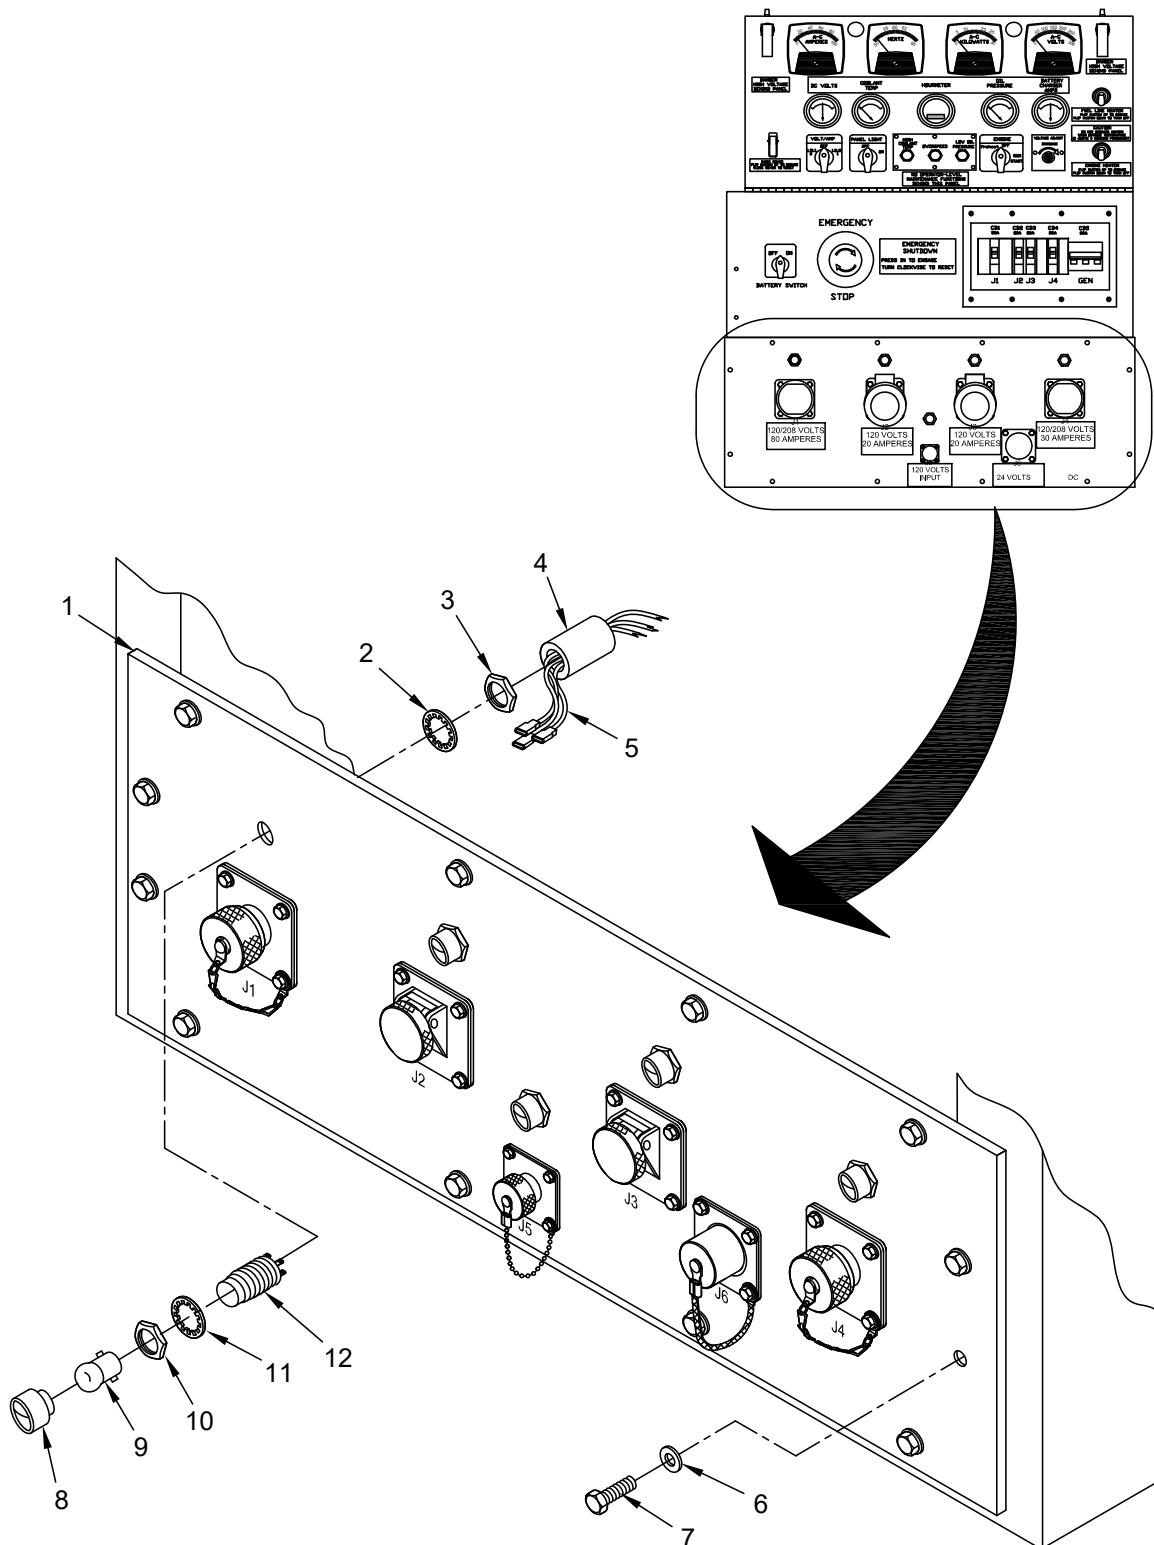
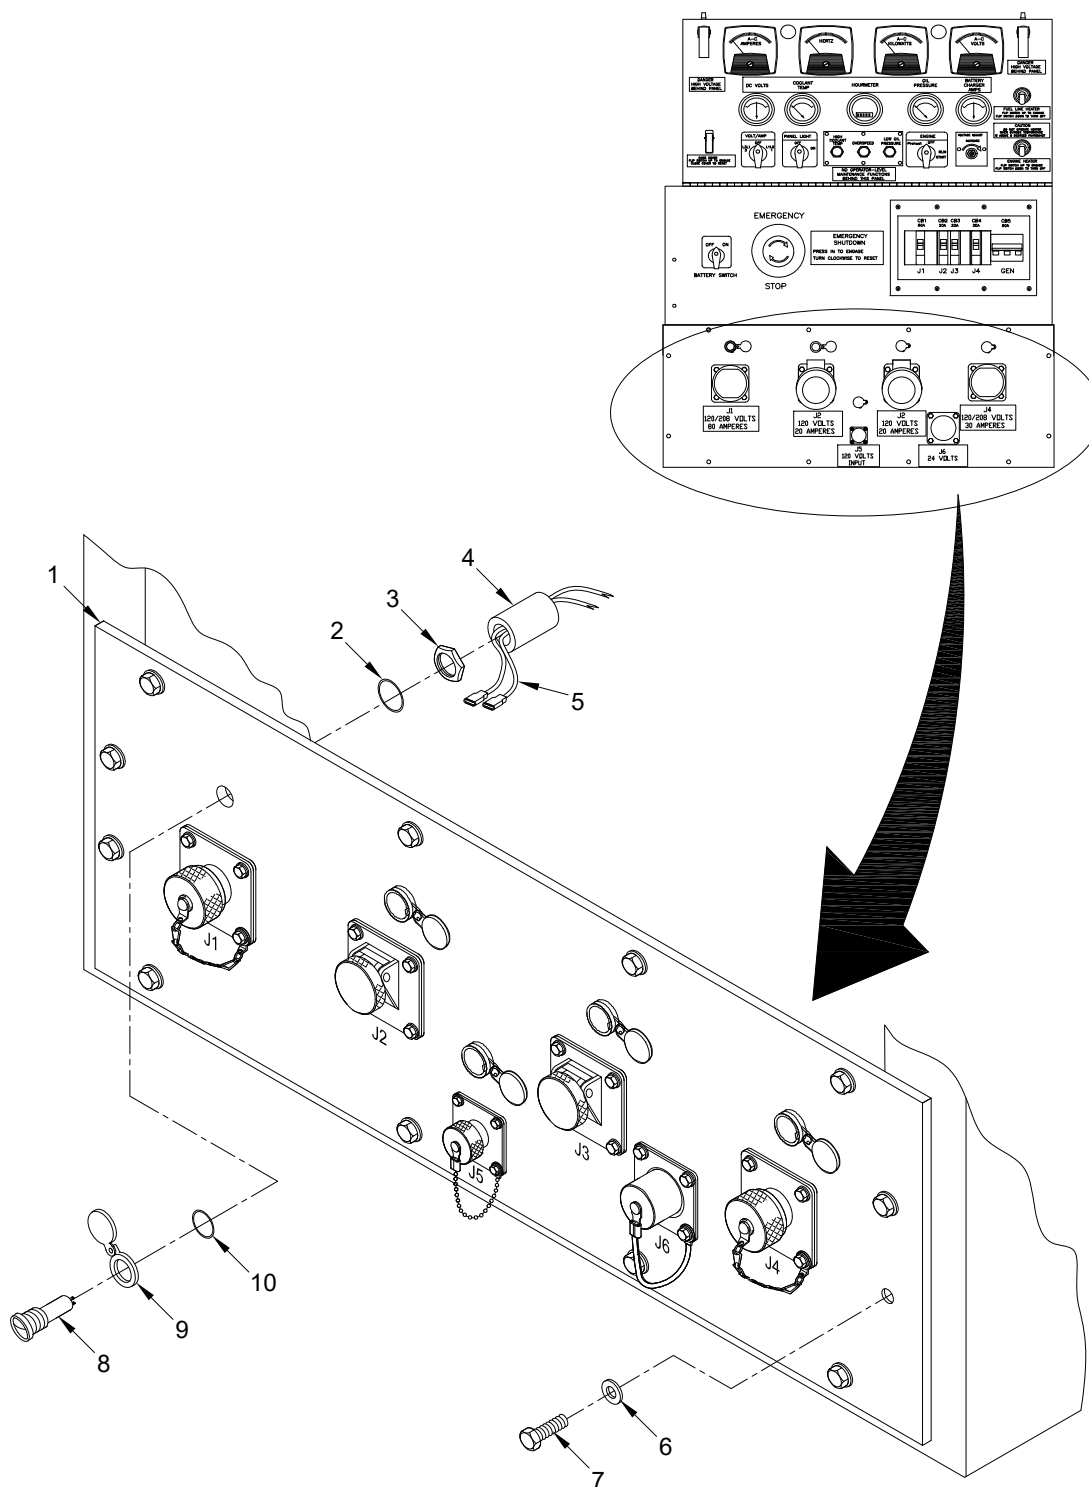
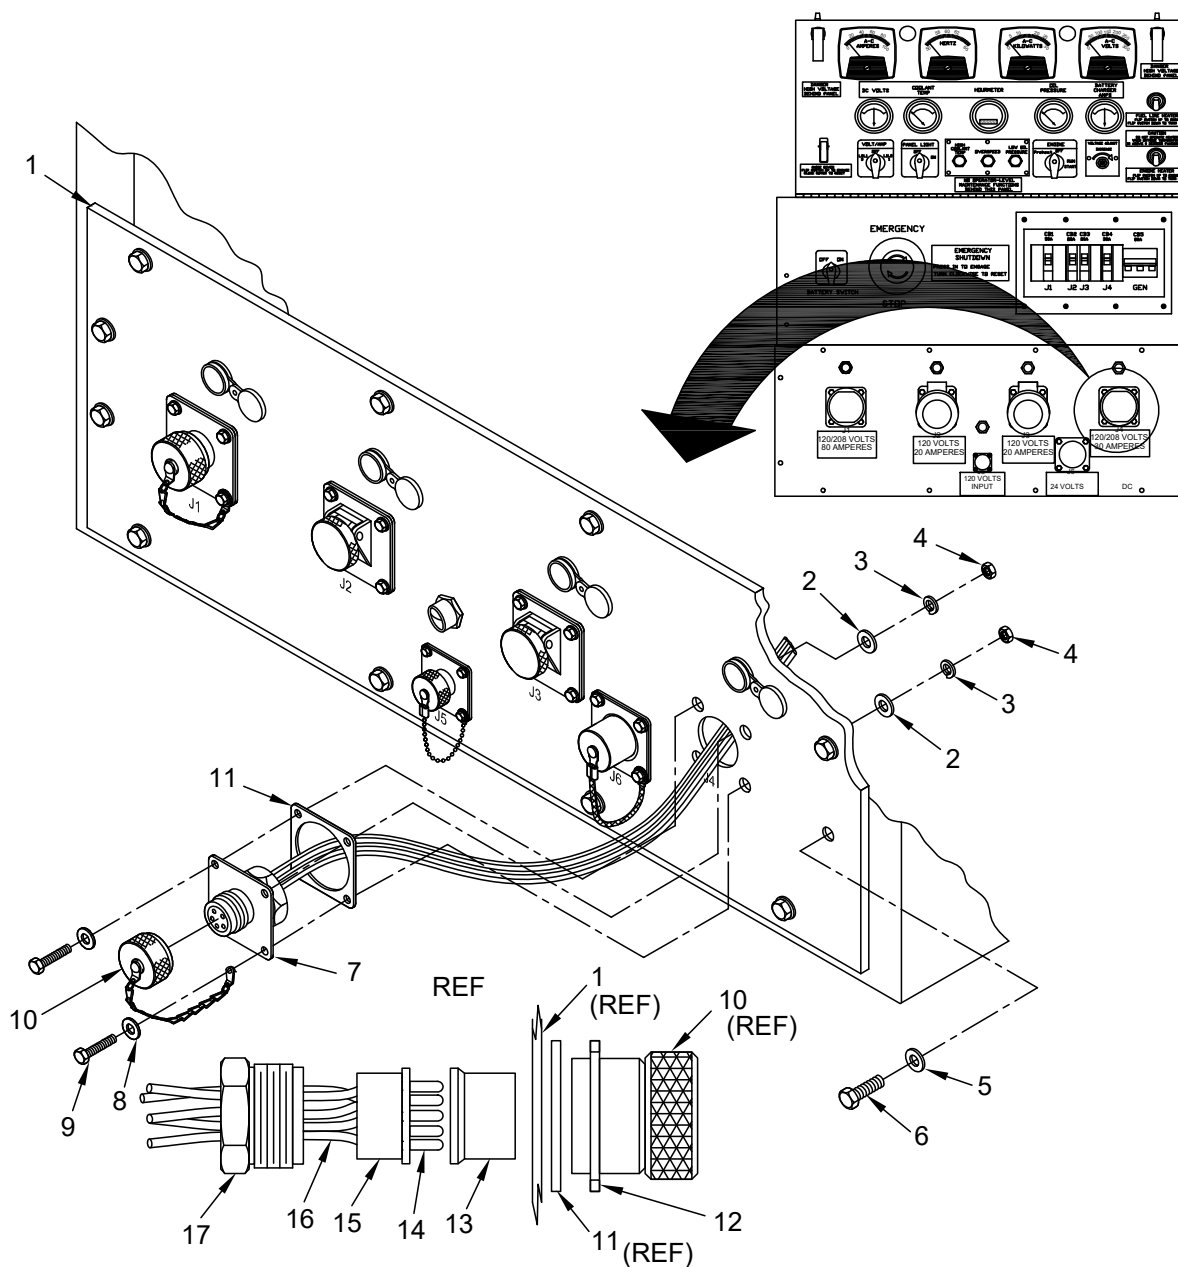
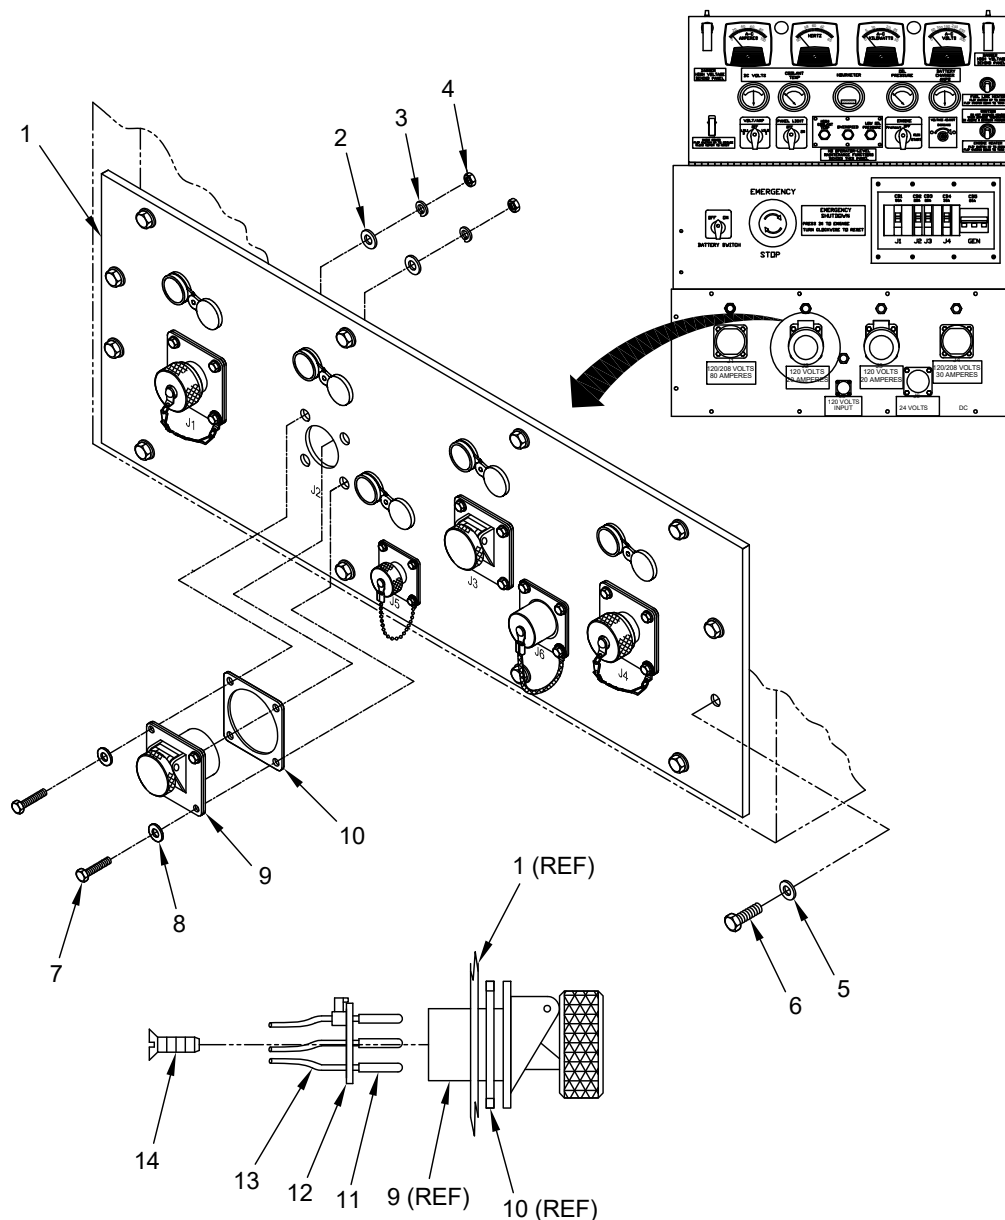

Figure 1. Power Distribution Panel Lights (old version) Removal/Replacement.
Figure 2. Power Distribution Panel Lights (New Version) Removal/Replacement.
Figure 3. Connector (J1 and J4) Removal/Replacement.
Figure 4. Connector (J2 and J3) Removal/Replacement.
2. Insert indicator light (Figure 1, Item 12), lock washer (Figure 1, Item 11) and nut (Figure 1, Item 10) through power distribution panel (Figure 1, Item 1).
3. Install nut (Figure 1, Item 3) and lock washer (Figure 1, Item 2) and secure indicator light (Figure 1, Item 11) to power distribution panel (Figure 1, Item 1).
4. Connect three terminals (Figure 1, Item 5) to light (Figure 1, Item 12) and slide wire cover (Figure 1, Item 4) over connections.
5. Place power distribution panel (Figure 1, Item 1) onto Genset and secure using 12 bolts (Figure 1, Item 7) and flat washers (Figure 1, Item 6).
6. Connect all cables to power distribution panel (Figure 1, Item 1).
7. Connect negative terminal to battery (see WP 0056). Start Genset (Figure 1, Item 1) in accordance with Genset Start Procedure (WP 0005) of this TM.
4. If necessary, disconnect all cables from power distribution panel (Figure 2, Item 1).
5. Remove and retain 12 bolts (Figure 2, Item 7) and flat washers (Figure 2, Item 6) that secure power distribution panel (Figure 2, Item 1) to Genset.
6. Remove power distribution panel (Figure 2, Item 1) and lay face down.
7. Slide wire cover (Figure 2, Item 4) off of light (Figure 2, Item 12) being replaced.
8. Mark and disconnect two terminals (Figure 2, Item 5) from light (Figure 2, Item 8) being replaced.
9. Remove and retain nut (Figure 2, Item 3) and metal gasket (Figure 2, Item 2) that secures light (Figure 2, Item 8) to power distribution panel (Figure 2, Item 1).
10. Remove light (Figure 2, Item 8), black out cover (Figure 2, Item 9), and rubber gasket (Figure 2, Item 10) from power distribution panel (Figure 1, Item 1).
1. Insert indicator light (Figure 2, Item 8), Black out cover (Figure 2, Item 9) and Rubber gasket (Figure 2, Item 10) through power distribution panel (Figure 2, Item 1).
2. Install metal gasket (Figure 2, Item 2) and nut (Figure 2, Item 3) and secure indicator light (Figure 2, Item 11) to power distribution panel (Figure 2, Item 1).
3. Connect two terminals (Figure 2, Item 5) to indicator light (Figure 2, Item 8) and slide wire cover (Figure 2, Item 4) over connections.
5. Place power distribution panel (Figure 2, Item 1) onto Genset and secure using 12 bolts (Figure 2, Item 7) and flat washers (Figure 2, Item 6).
6. Connect all cables to power distribution panel (Figure 2, Item 1).
The door covering the circuit breakers in (Figure 2) has been removed for clarity.
4. If necessary, disconnect all cables from power distribution panel (Figure 3, Item 1).
5. Remove and retain 12 bolts (Figure 3, Item 6) and lock washers (Figure 3, Item 5) that secure power distribution panel (Figure 3, Item 1) to Genset.
7. Remove power distribution panel (Figure 3, Item 1) and lay face down.
8. Remove and retain four bolts (Figure 3, Item 9), flat washers (Figure 3, Item 8), nuts (Figure 3, Item 4), lock washers (Figure 3, Item 3) and flat washers (Figure 3, Item 2) that secure connector (J1 or J4) (Figure 3, Item 7), gasket (Figure 3, Item 11) and dust cover (Figure 3, Item 10) to power distribution panel (Figure 3, Item 1).
9. Remove connector shell (J1 or J4) (Figure 3, Item 7) from power distribution panel (Figure 3, Item 1) (wires will be attached).
10. Loosen ring (Figure 3, Item 17) from rear of connector shell (Figure 3, Item 12).
11. Slide ring (Figure 3, Item 17) and slide assembly out of connector shell (Figure 3, Item 12).
12. Slide rear insulator (black) (Figure 3, Item 15) and front insulator (red) (Figure 3, Item 13) back to gain access to pins (Figure 3, Item 14) and wiring (Figure 3, Item 16).
13. Remove pins (Figure 3, Item 14) from associated wires (Figure 3, Item 16).
14. Mark and remove wires (Figure 3, Item 16) from rear insulator (black) (Figure 3, Item 15) and ring (Figure 3, Item 17). Set all pieces aside.
1. Inspect all wires (Figure 3, Item 16) for nicks, cuts, burn marks or other damage. If necessary replace with appropriate gauge and color of wire.